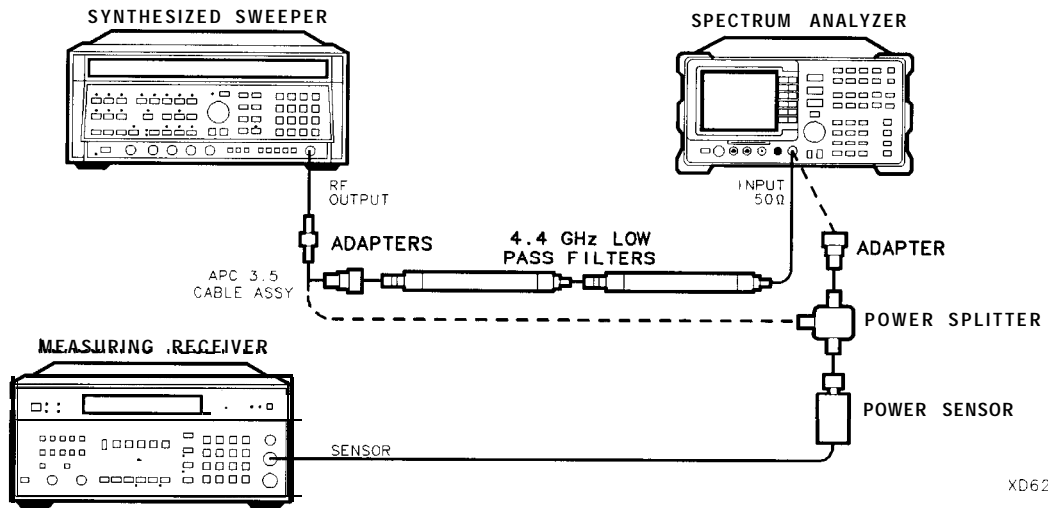

Figure 2-46. Second Harmonic Distortion **Test Setup, >2.9 GHz**
13. Connect the equipment as shown in Figure 2-46, with the output of the synthesized sweeper connected to the input of the power splitter, and the power splitter outputs connected to the spectrum analyzer and the power sensor.
24. Connect the equipment as shown in Figure 2-46 with the filters in place.